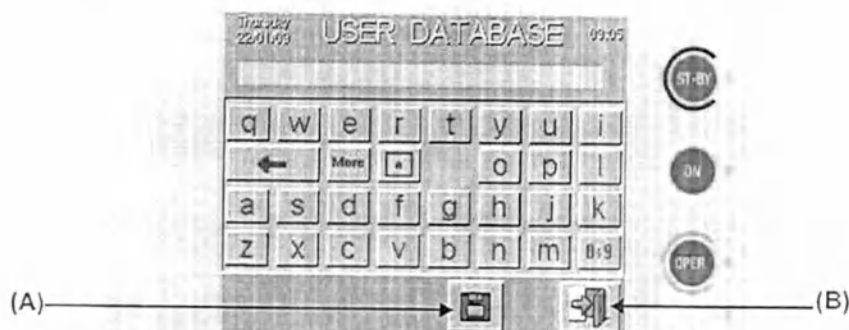

Fig. 24 - Notes inserting in a treatment program
Touch the diskette icon - (A) in Fig. 24 -to store the inserted note